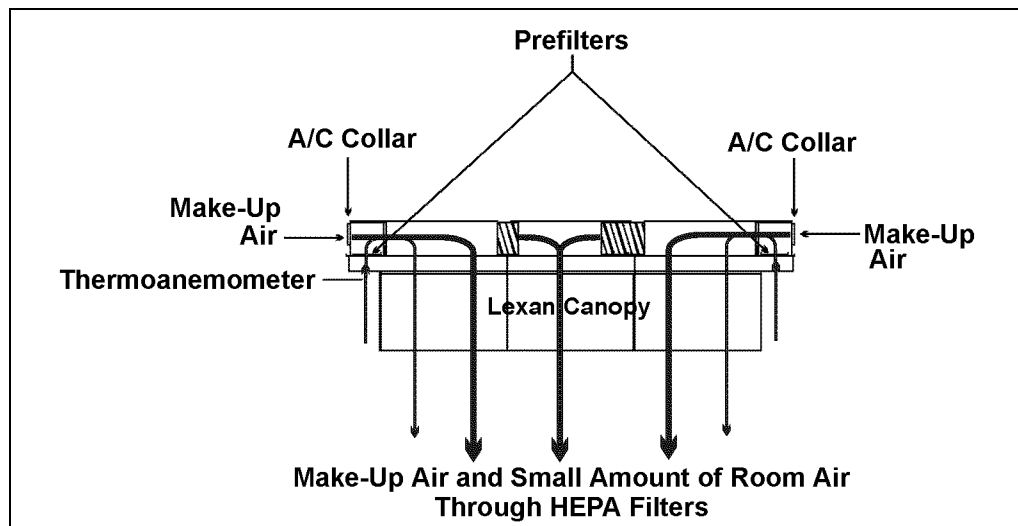

Figure 11: The Correct Global Standby (LO) Speed Condition
- I. As a safety precaution, continue to slowly rotate the Adjust dial to a Global Standby/Setback velocity about 10% higher. This will allow small amount of room air to be brought into the VOR-12 and combined with the conditioned make-up air before passing through the HEPA filters and ensure that a back flush condition does not exist (Figure 11).